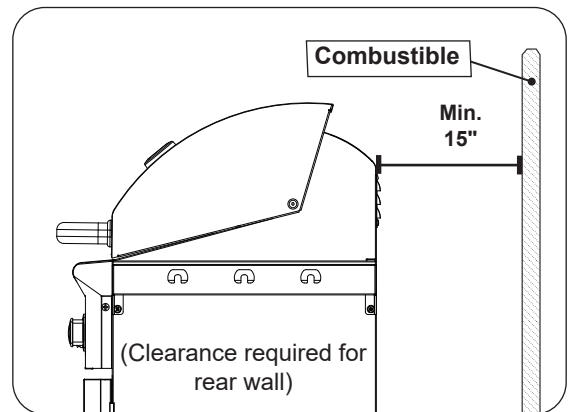

Fig. 12-3 Clearance 'C' Diagram
- The unit must have a minimum clearance of 15" from the combustible rear wall (see Fig. 12-3).